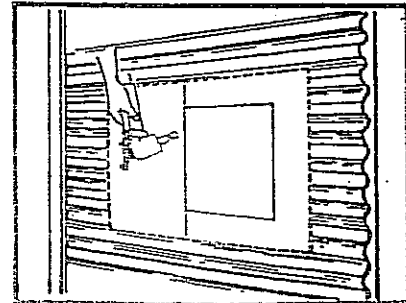

Fig. 3
3. Having marked the position of your roof opening remove the Flashing Tray and proceed to cut the section of roof (shown by the coloured line in Fig.3) using a nibbler or tin snips. NOTE: If an angle grinder is used be sure to clean off filings to avoid spot rusting.